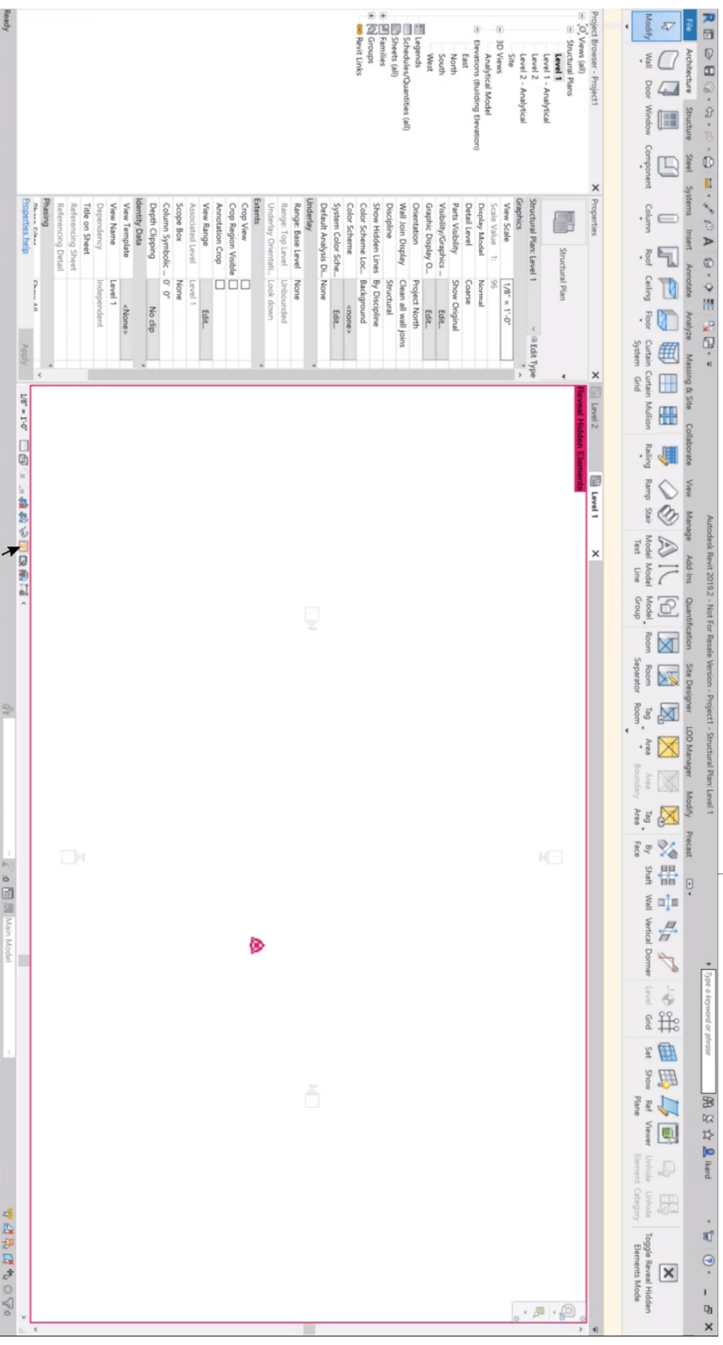

Figure 1 Exposing the Origin
1. Expose Revit's System Origin and the Project Base Point (Figure 1)